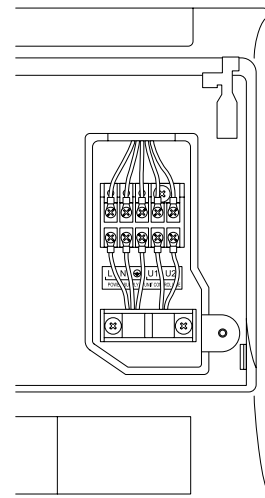

Fig. 3-33
- (4) Route the inter-unit wiring from the back of the indoor unit and pull it toward the front for connection. (Fig. 3-33)
- (5) Connect the inter unit wiring to the corresponding terminals on the terminal plate (Fig. 3-33) while referring to the wiring diagram.
- (6) Be sure to secure the wiring with the provided clamp.